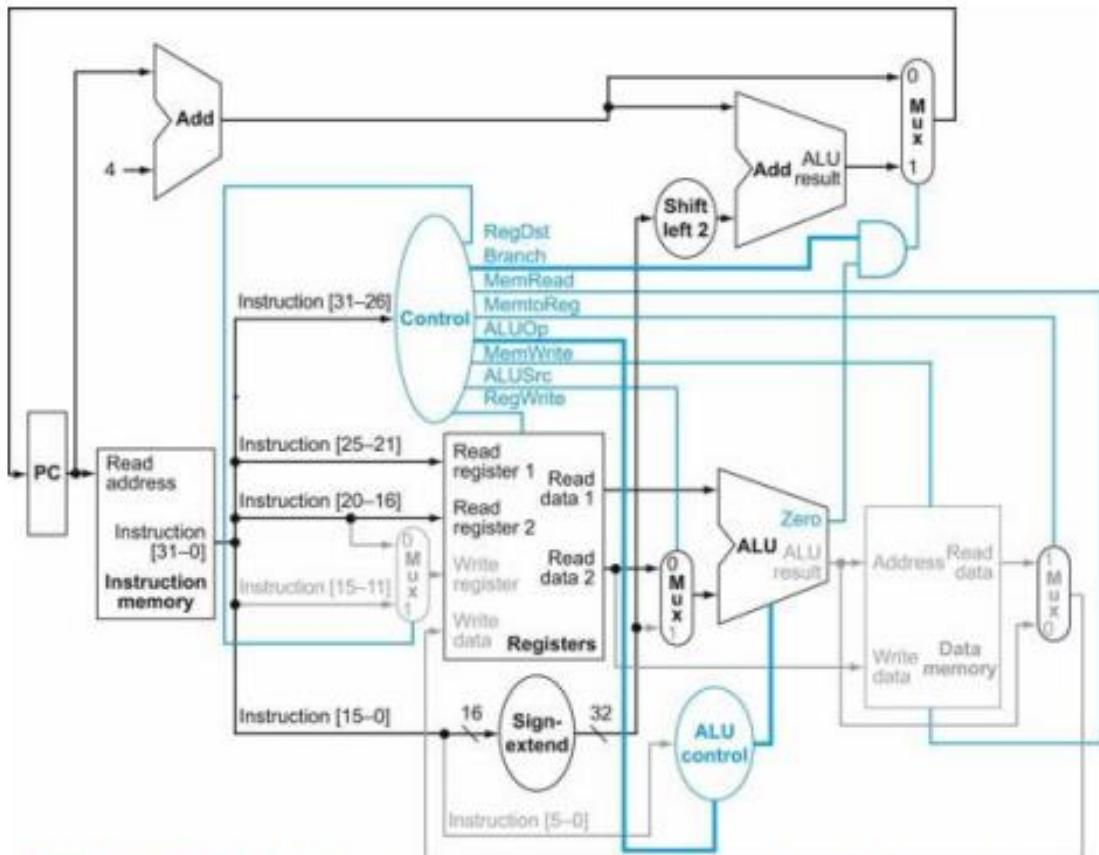

FIGURE 4.21 The datapath in operation for a branch-on-equal instruction.
1. [25] When processor designers consider a possible improvement to the processor datapath, the decision usually depends on the cost/performance trade-off. In the following three problems, assume that we are beginning with the datapath from Figure 4.21, the latencies from Exercise 4.7, and the following costs: